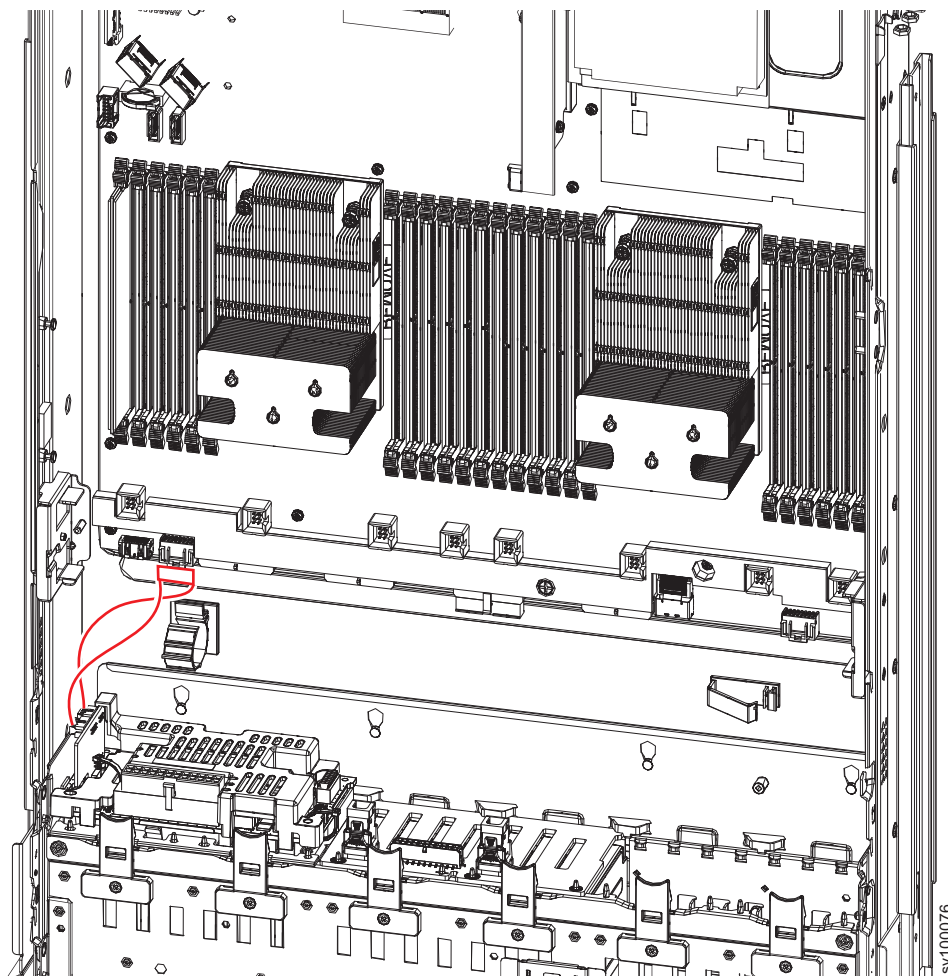

Figure 110. 2145-SV1 battery backplane power sense cable
3. Attach the battery backplane power sense cable to the main board, if needed, as shown in Figure 110 on page 132.
4. Attach the battery backplane power sense cable to the battery backplane, as shown in Figure 110.